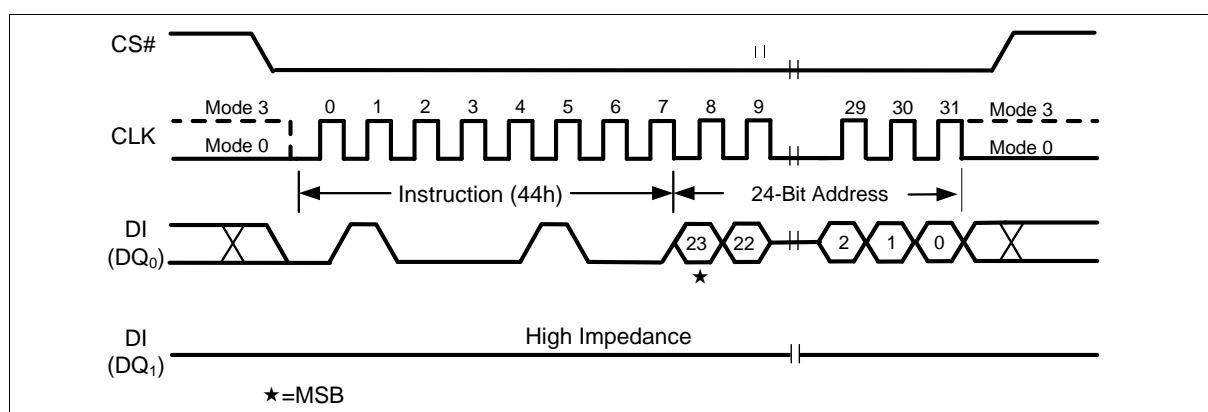

Figure 101 Erase Security Sector Instruction (SPI Mode only)
The Erase Security Sector instruction sequence is shown in Figure 101. The CS# pin must be driven high after the eighth bit of the last byte has been latched. If this is not done the instruction will not be executed. After CS# is driven high, the self-timed Erase Security Sector operation will commence for a time duration of t_{SE} (See “11.6_AC Electrical Characteristics”). While the Erase Security Sector cycle is in progress, the Read Status Register instruction may still be accessed for checking the status of the WIP bit. The WIP bit is a 1 during the erase cycle and becomes a 0 when the cycle is finished and the device is ready to accept other instructions again. After the Erase Security Sector cycle has finished the Write Enable Latch (WEL) bit in the Status Register is cleared to 0. The Security Sector Lock Bit (LB) in the Status Register-2 can be used to OTP protect the Security Sector. Once a lock bit is set to 1, the Security Sector will be permanently locked and Erase Security Sector instruction will be ignored.